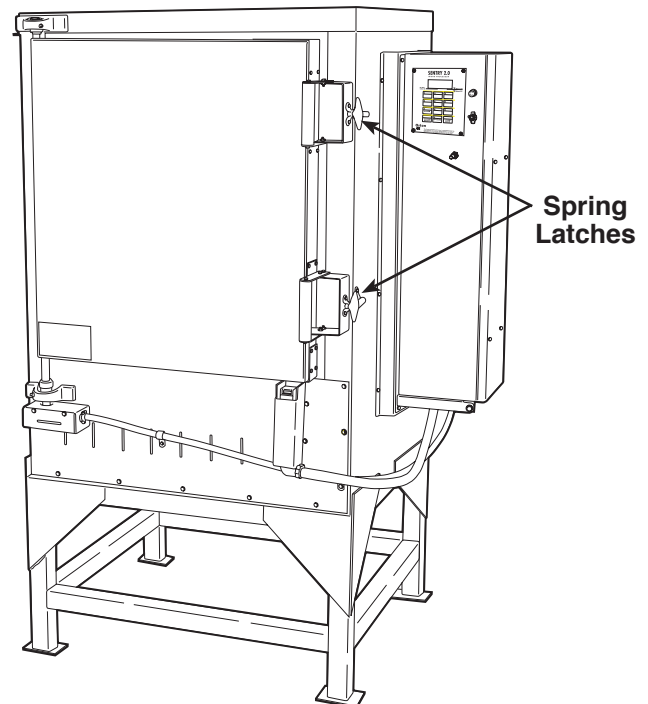

Figure 1
2. Release the spring latches on the door to the firing chamber (see Figure 1), and remove the shipping material from inside the chamber.